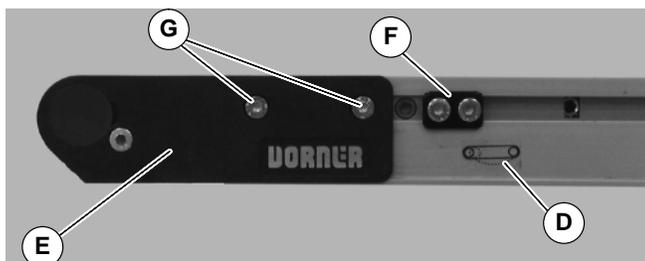

Figure 2
2. On tension end of the conveyor, identified with a  label (D of Figure 2), push in idler end assembly (E): On both sides of conveyor, loosen and move cam tracking assemblies (F) (if equipped, for non v–guided belts) away from head plates, then loosen fastening screws (G) and push idler end assembly inward.
4. Remove (2) headplate mounting screws (G of Figure 2). Remove idler end assembly (I of Figure 4).
2. On tension end of the conveyor, identified with a  label (D of Figure 2), push in idler end assembly (E): On both sides of conveyor, loosen and move cam tracking assemblies (F) (if equipped, for non v-guided belts) away from head plates, then loosen fastening screws (G) and push idler end assembly inward.